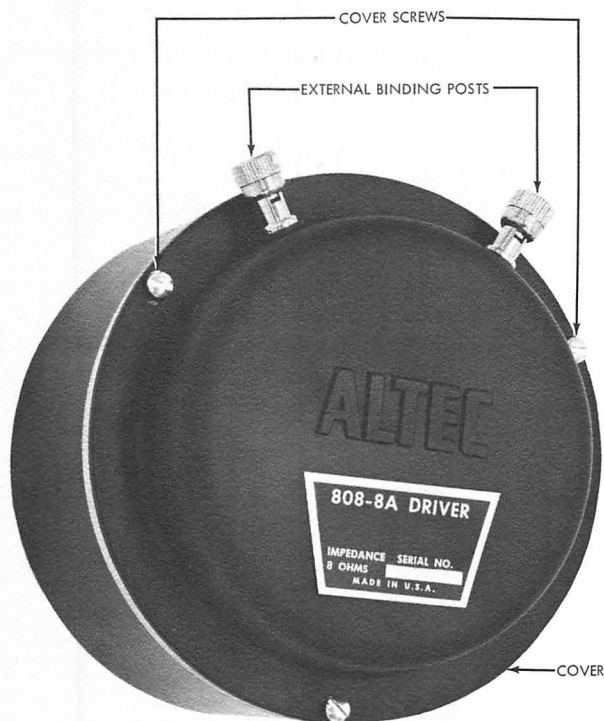

Figure 1. Typical HF Driver Loudspeaker
- Step 1. Remove leads from external binding posts (see Figure 1), noting polarity.
- Step 3. Remove three cover screws from driver cover (see Figure 1). Retain screws.